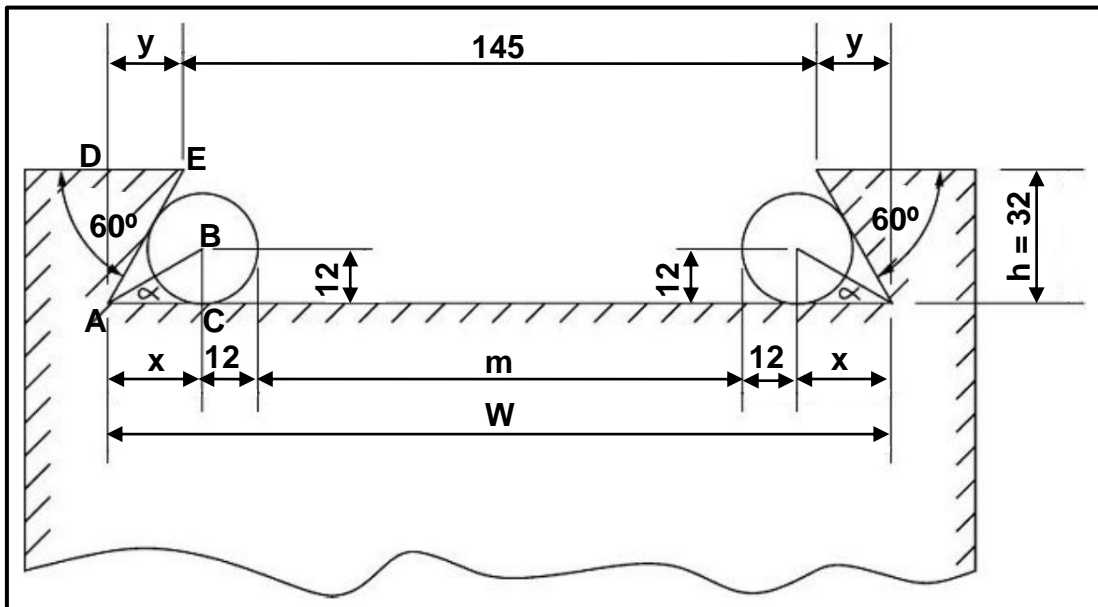

FIGURE 6.2
6.2 FIGURE 6.2 below shows an external dovetail that must be manufactured for a compound slide on a centre lathe.